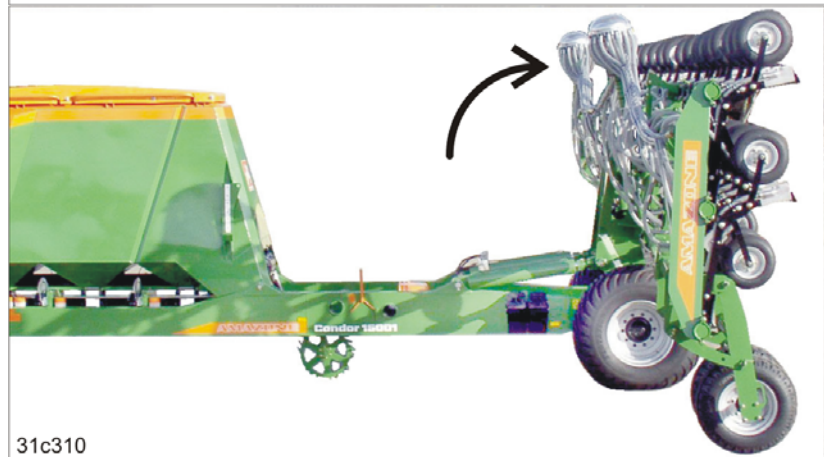

Fig. 206 31c310
- o the distributor heads are folded (see Fig. 206)